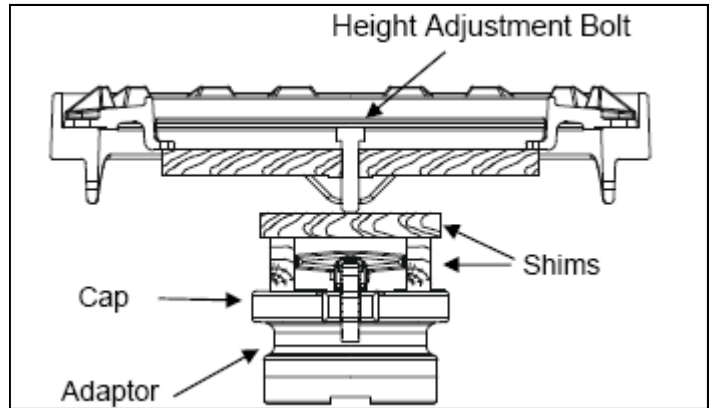
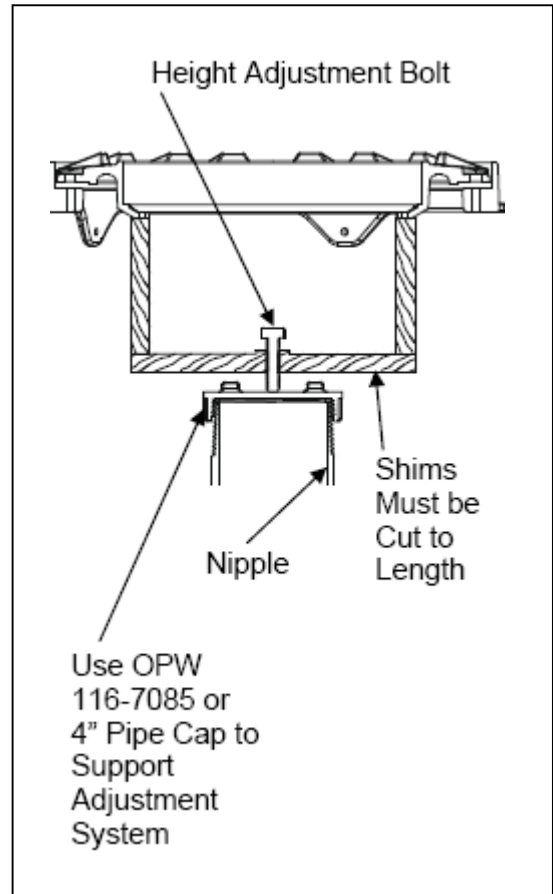

Figure 4
Figure 8
Step 7: (See Figures 4 & 8)
If necessary, the height of the spill container can be adjusted by $\pm 1"$ (2.5cm). If it is necessary to increase height, install adjusting system (sold separately for 5 gallon models, part number H12267) beneath tabs on mounting ring. See Figure 4 for standard cover models and Figure 8 for sealable cover models. Add shims as needed and adjust with screw (shims must be cut to size for sealable cover models).